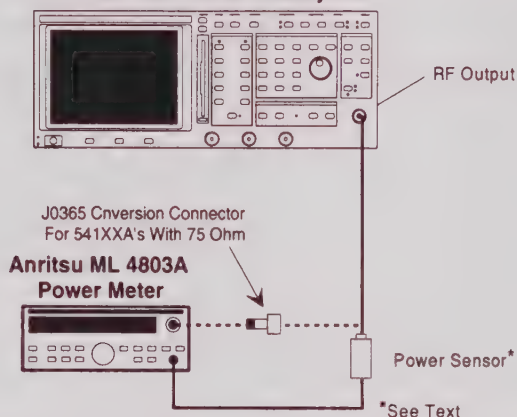

Figure 6-20. Equipment Setup for ALC Pre-Adjustment Procedure
- ☐ Set up test equipment as shown in Figure 6-20.